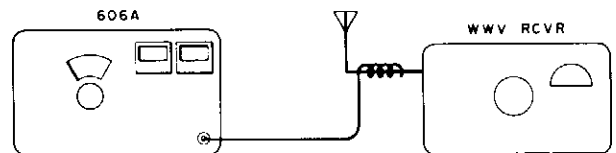

Figure 4-4. Frequency Calibration
c. Lightly couple a single wire from the RF OUT jack of the Model 606A to the antenna as shown in **Figure 4-4**.